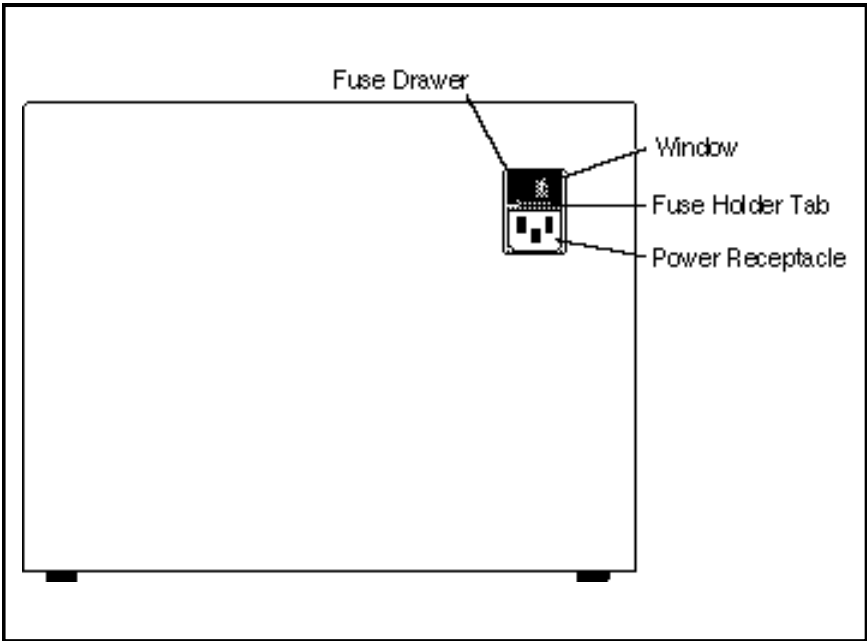

Figure 4: Rear view of the LCx Lysor
3. Verify that the Lysor is set to the correct voltage. The voltage setting appears in the window above the fuse holder tab located at the rear of the LCx Lysor (see **Figure 4**). Voltage setting options are 100, 115, or 230. If the voltage setting is correct, proceed to step 4 below. If the voltage setting is incorrect:
- b. Locate the fuse drawer which is at the rear of the LCx Lysor, directly above the power receptacle. (See **Figure 4**.)